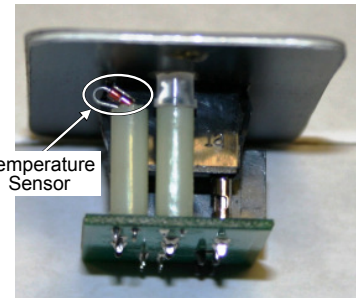

Figure 2, Locating Sensor
1. Find the temperature sensor behind the remote switch’s front plate. It is a small reddish looking device close to the metal front plate (see Figure 2).